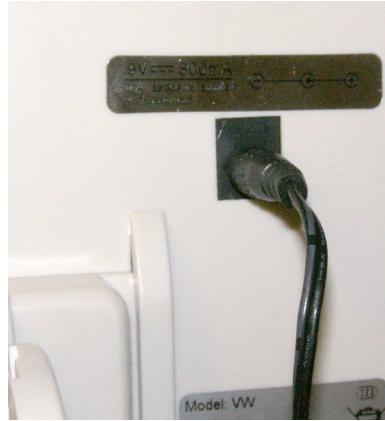

Figure 2.6 Connect power cord to indicator
6. Attach the AC power adapter to the connector on the back of the indicator. See Figure 2.6.